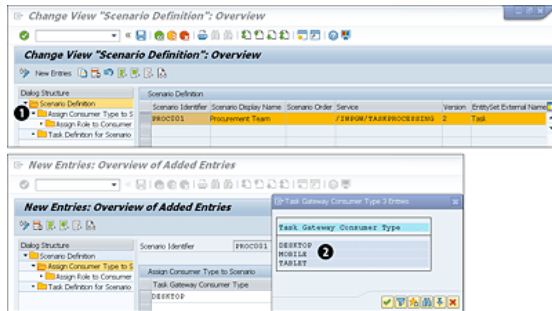

Figure 11.3 My Inbox Scenario ID Configuration
4. Next, assign the **Consumer Type** by selecting a newly created scenario ID and then clicking on **Assign Consumer Type to Scenario ID** in the **Dialog Structure** on the left, as shown in Figure 11.3 ❶.
5. You can choose consumer types of **DESKTOP**, **MOBILE**, and **TABLET** ❷ per your application and business requirements.